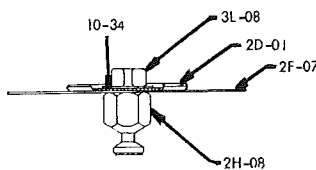

FIGURE 10
2. Primary Diaphragm Assembly (Figure 10)